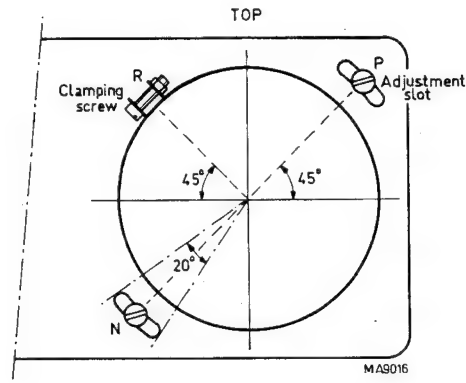

Fig. 2.9. Cathode-ray tube positioning
- remove screws N and P behind front panel (see Fig. 2.9.).
- slacken clamping screw R in bracket around tube face (Fig. 2.9.).